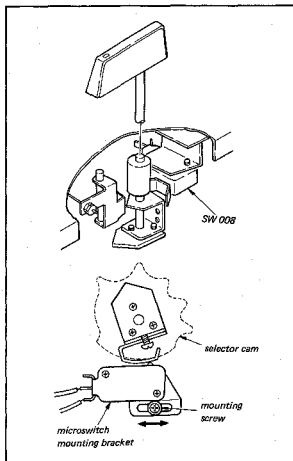

Fig. 4-28. Microswitch adjustment
1. Set the Function Lever to the STOP mode. Make sure that the microswitch actuator is in the center of the Cam. See Fig. 4-28.